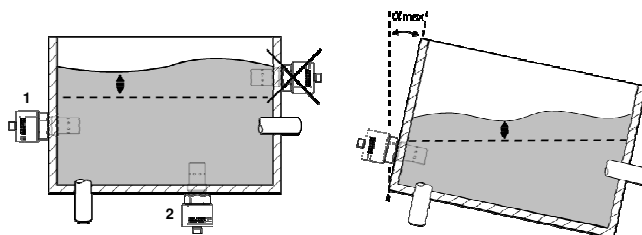

Fig. 3.2: Installation example of correct and incorrect mounting of the sensor in an oil tank
- If the oil in the tank is not sufficiently mixed, it is possible that free water can settle on the floor of the tank. Consequently the sensor at position 1 would not detect the water. In this special case installation position 2 would be recommended (see: Fig. 3.2).